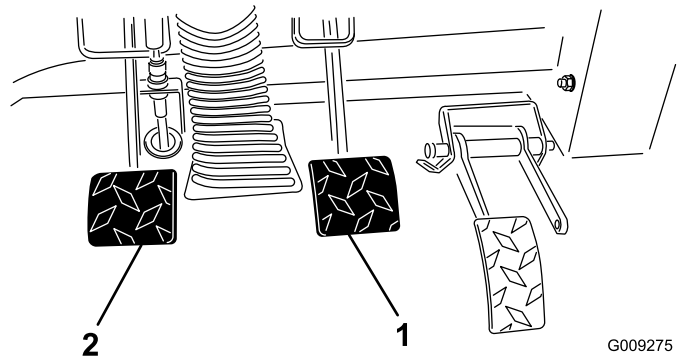

Figure 58
2. Lift up on the brake pedal (Figure 58) until it contacts the frame.